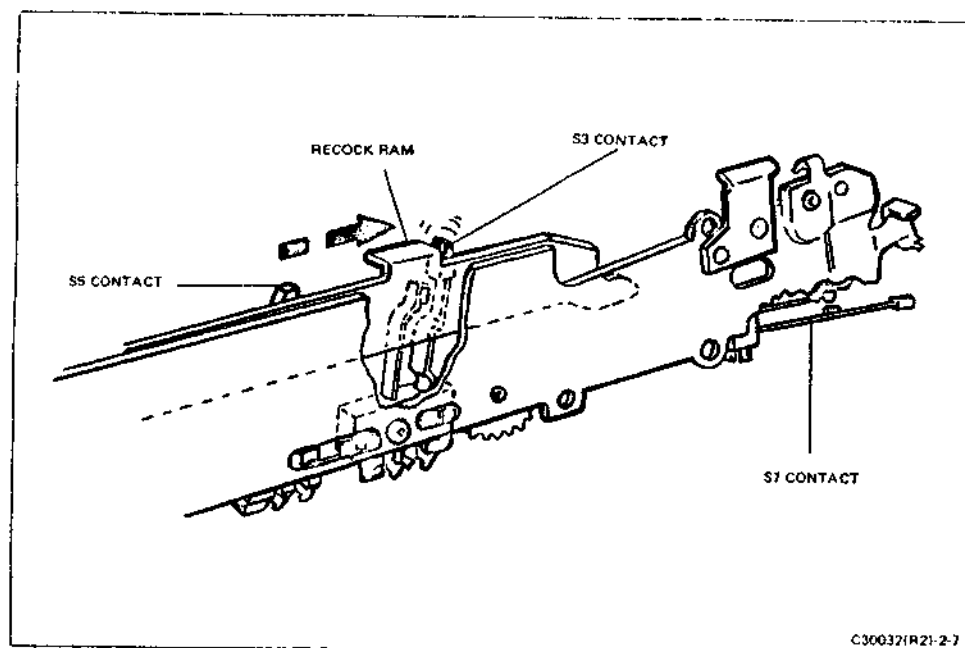

FIGURE 2-7 S3 BEING OPENED BY RECOCK RAM
c. Switch S3, normally closed at the beginning of the exposure cycle is opened by the recock ram located in the gear train assembly. See Figure 2-7. As the exposure sequence begins, S3 opens and actuates a delay circuit (Y delay) in the ECM which retards the start of the actual exposure approximately forty milliseconds so that mirror bounce will have subsided before a picture is taken. At the end of the delay time, the shutter starts to open and the electronic timing function (integration) takes place. If a flash circuit is inserted into the FFA (S2 closed) an additional flash delay circuit is activated to insure that the exposure gets full effect of the light derived from the flash. At the end of the exposure cycle when the Fresnel carrier moves down into viewing position, S3 closes as the recock ram moves away. It is now reset for the next camera cycle.
e. Switch S5 (normally closed at the beginning of the exposure cycle), like S3, is located in the gear train and actuated by the recock ram (Figure 2-7). When the gear train rotates to the appropriate point in its cycle, S5 opens and removes power from the drive motor, applying dynamic braking voltage to stop the gear train quickly. The ECM reacts to this command in such a way that the exposure cycle continues completion even though the operator has released the exposure button (S1). After exposure and when the fresnel carrier returns to the